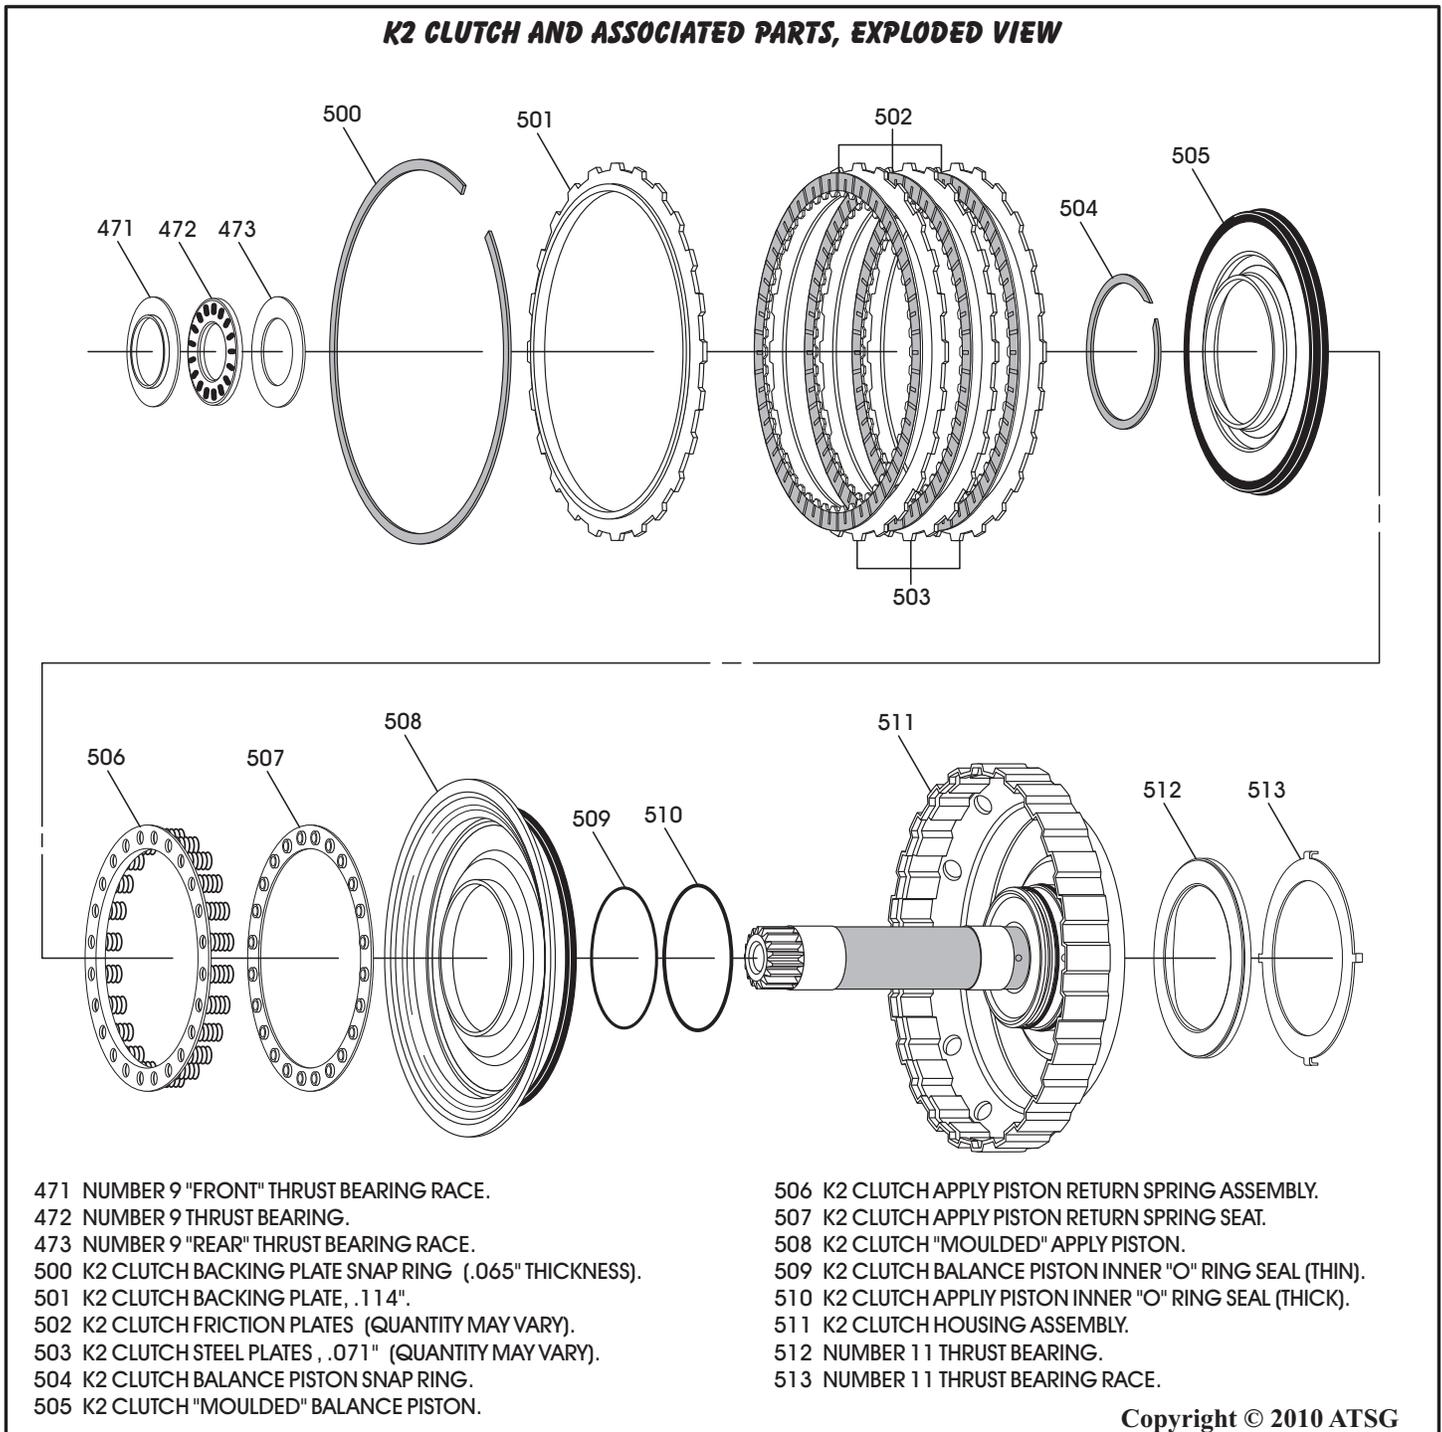

Figure 120
1. Disassemble the K2 clutch housing assembly using Figure 120 as a guide.